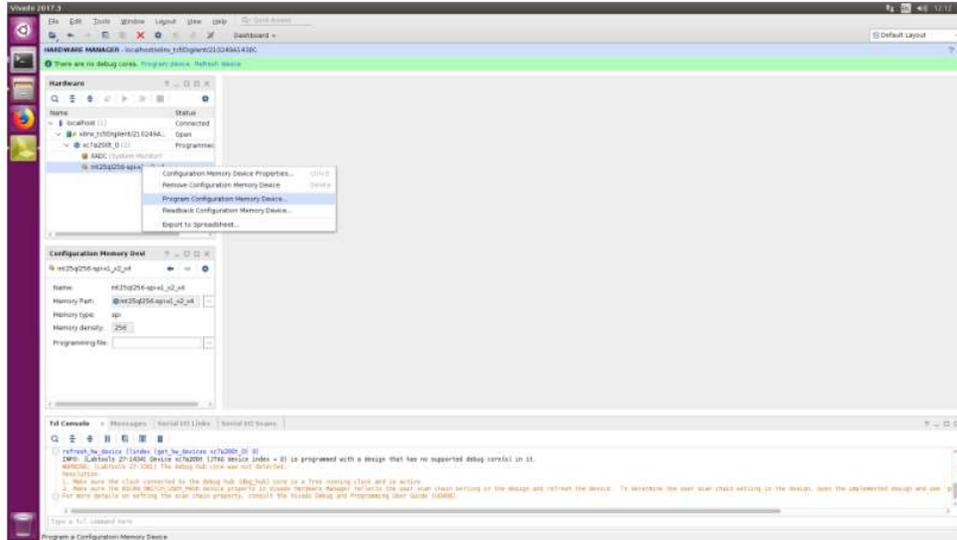

Figure 54: Program configuration memory device 1 [sc19]
- Alternatively, if the pop-up “Add Configuration Memory Device completed” doesn’t appear, right-click the memory configuration device “mt25ql-256-spi-x1\_x2\_x4” in the “Hardware” pane on the upper left-hand side of the screen. A pop-up appears; left-click “Program Configuration Memory Device” (Figure 54, STMA-69245);